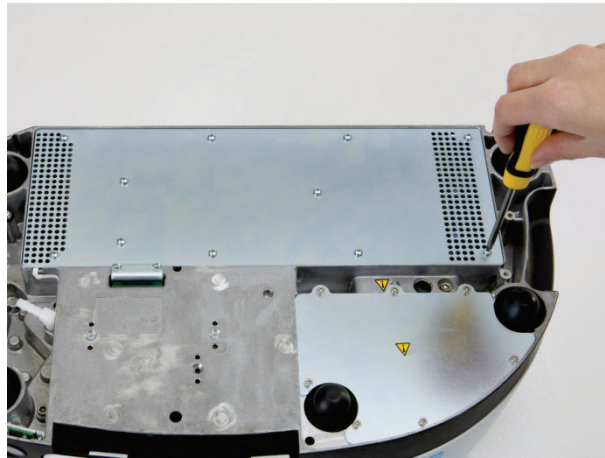

Figure 93 Remove the securing screws
7. Remove the used filter (Figure 93).